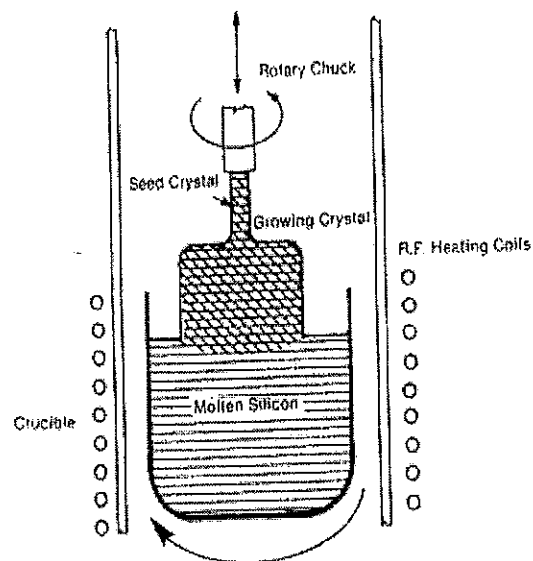

Figure 1(a): Czochralski growth process for single crystal doped silicon.
- (a) Czochralski (CZ) technique is the main technology used in the growth of monocrystalline silicon (Si) ingot for microelectronic applications. Based on the diagram in Figure 1(a) below, describe the CZ monocrystalline growth process for a doped Si ingot. Explain how doping uniformity, crystal perfection and diameter control for the doped Si ingot can be achieved. [10 marks]
- (b) A silicon (Si) ingot doped with boron (B) is measured for the top wafer slice of the ingot using four-point probe with probe spacing of 1 mm. The voltage/current (V/I) reading obtained is $0.32 \, \Omega$. The resistivity versus doping concentration curves for n-type and p-type Si are given in Figure 1(b) and the segregation coefficient for the B dopant is 0.8. Determine the doping concentration of the wafer taken from the position corresponding to 40 % of the initial charge solidified. [6 marks]